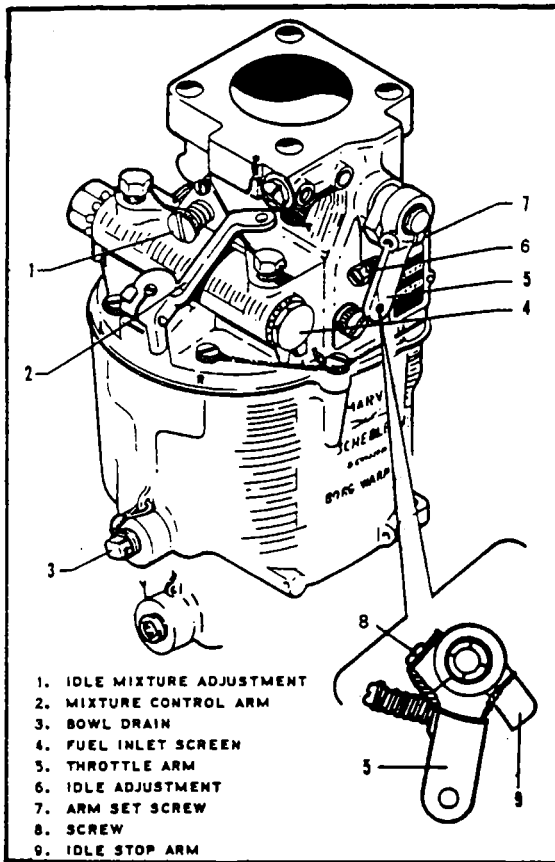

Figure 7-5. Carburetor
- d. Clean the fuel inlet screen. (Refer to Figure 7-5.)
- e. Using a .032 inch diameter safety wire, first tie the wire to the idle stop lever and then continue as shown in Figure 7-5.
c. Turn the idle mixture adjusting screw (1, Figure 7-5), located near the rear of the carburetor, clockwise, leaning the fuel mixture. Continue to do this until the engine begins to run roughly, at which time the engine speed will decrease.
b. Adjust idle adjustment screw (6, Figure 7-5) to obtain from 550 to 650 RPM. Rotate screw clockwise to increase the speed of the engine; counterclockwise to decrease engine speed. The screw is located on the throttle arm.